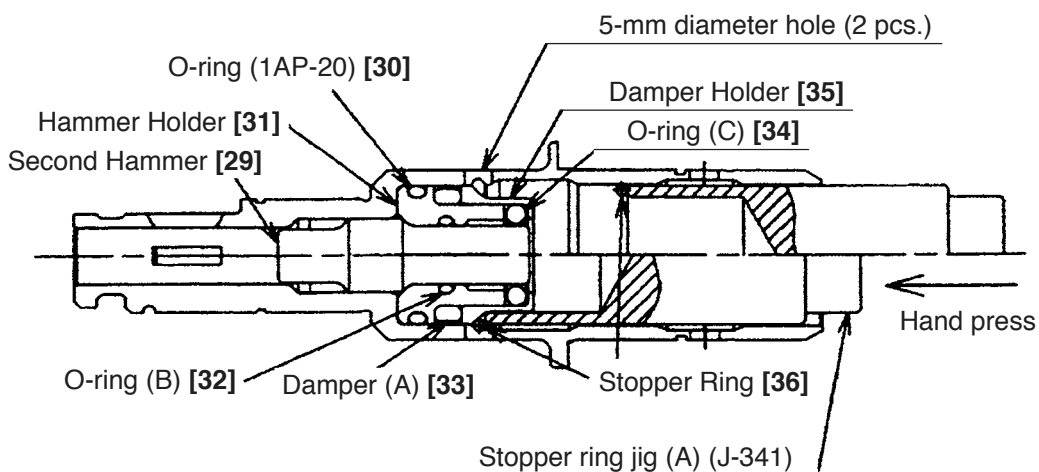

Fig. 21
(2) Mounting the Cylinder [17]
Mount the Second Hammer [29], O-ring (1AP-20) [30], Hammer Holder [31], O-ring (B) [32], Damper (A) [33], new O-ring (C) [34] and Damper Holder [35] in the Cylinder [17]. Push the new Stopper Ring [36] in the Cylinder [17] then push in the hole side of stopper ring jig (A) (J-341) on it as shown in Fig. 21. Push the upper end surface of stopper ring jig (A) (J-341) with a hand press to fit the Stopper Ring [36] in the groove of the inside diameter portion of the Cylinder [17]. Check that the Stopper Ring [36] is securely fitted in the groove of the inside diameter portion of the Cylinder [17] viewing from the 5-mm diameter holes (2 pcs.) on the Cylinder [17].